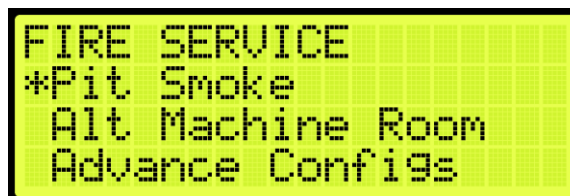

Figure 600: FIRE SERVICE Menu – PIT Smoke
- From the FIRE SERVICE menu, scroll and select PIT Smoke (See Figure 600).